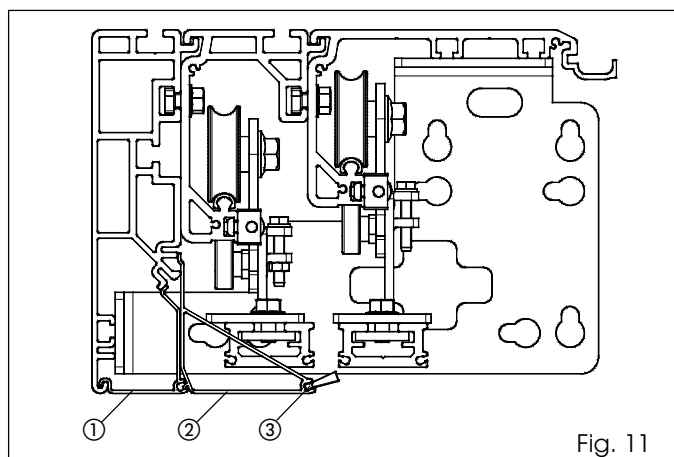

Fig. 11
•If using the closing profile for a free-standing automated system, assemble it as shown in fig 11 ref. ①.
•If using the closing profile for a telescopic automated system, assemble it as shown in fig. 11 ref. ②
**ATTENTION:** insert the brush (accessory fig. 11 ref. ③) in the closing profile of the telescopic automated system before installing.